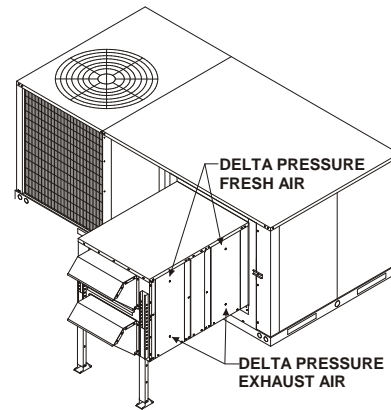

Figure 8
6. Remove the screws placed in the standoff legs and adjust the legs on the ERS until it is level. Replace all four screws in each leg to secure the ERS in the leveled position. **See Figure 8.**
7. Check and seal, if necessary, along the edges where the ERS meets the rooftop unit to ensure there is no air leakage. Final assembly should resemble **Figure 8.**